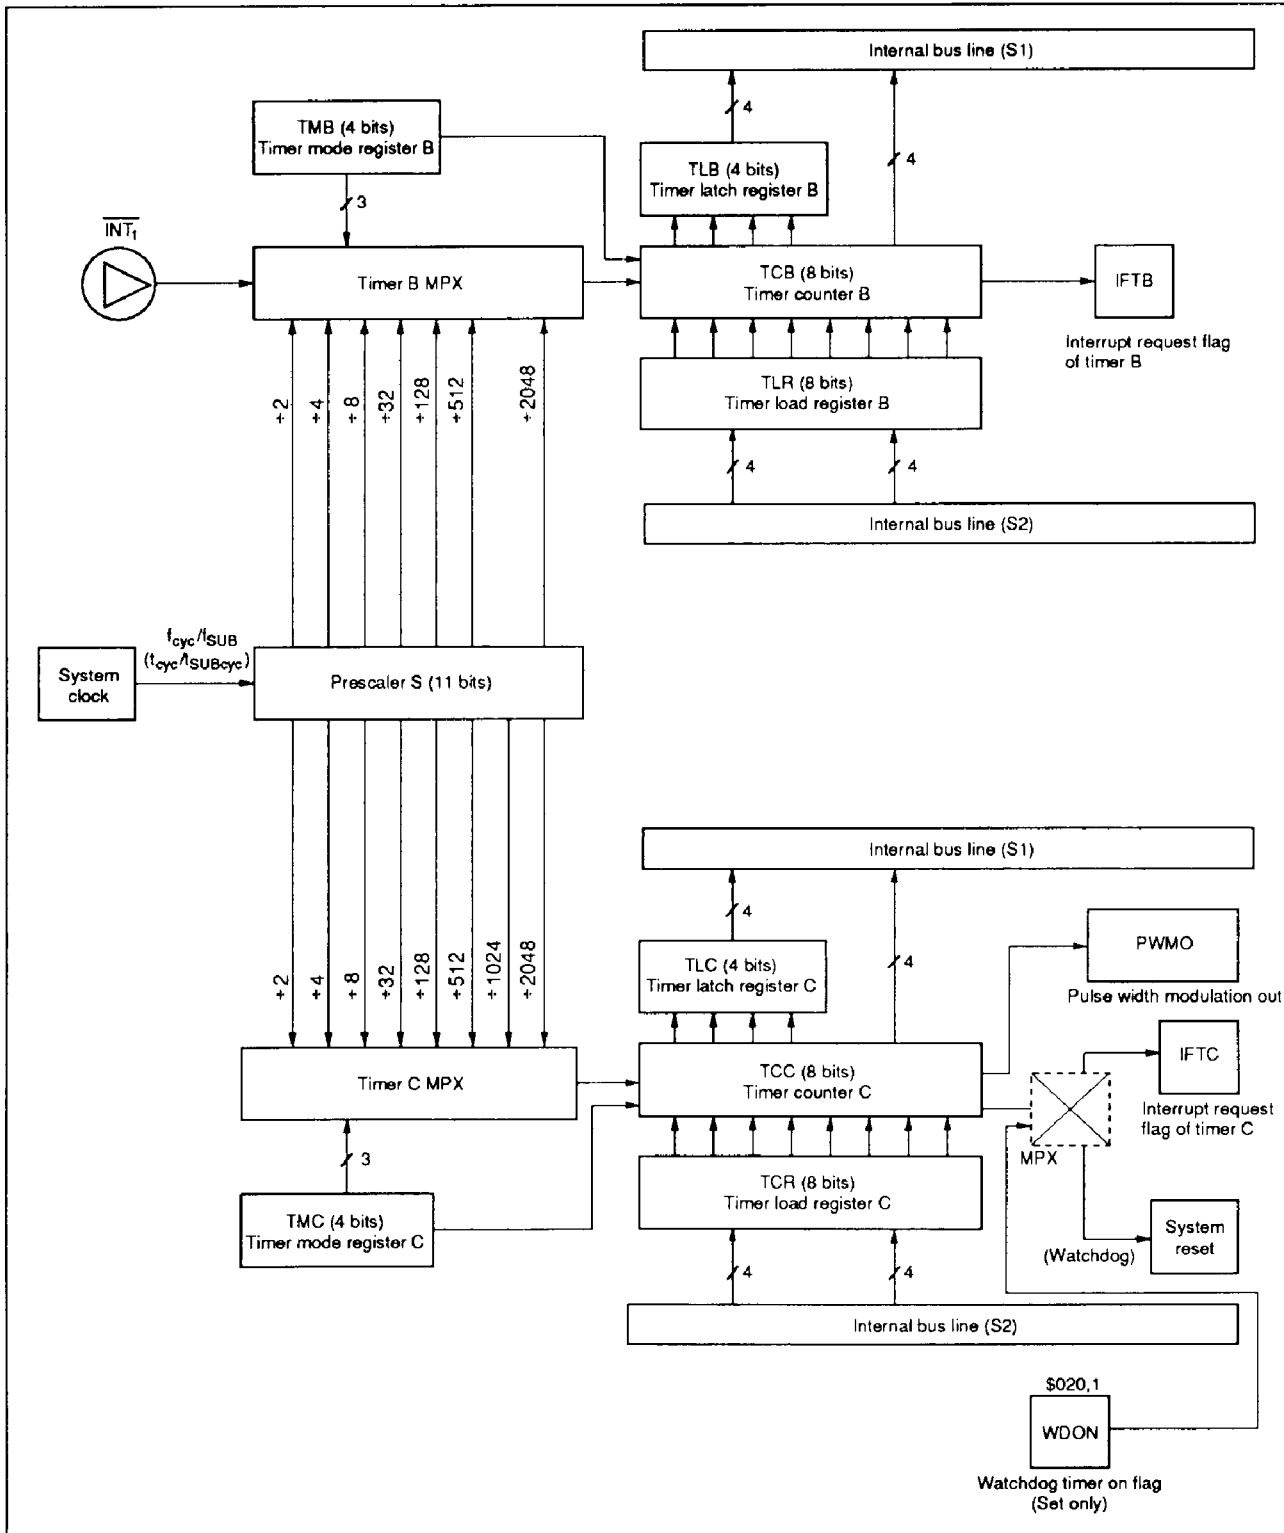

Figure 15 Timers B and C Block Diagram
**Timer B (TCBL: \$00A, TCBU: \$00B, TLRL: \$00A, TLRU: \$00B):** Timer B consists of an 8-bit write-only timer load register, and an 8-bit read-only timer counter. Each of them has low-order digits (TCBL: \$00A, TLRL: \$00A) and high-order digits (TCBU: \$00B, TLRU: \$00B). (Refer to figure 15.)